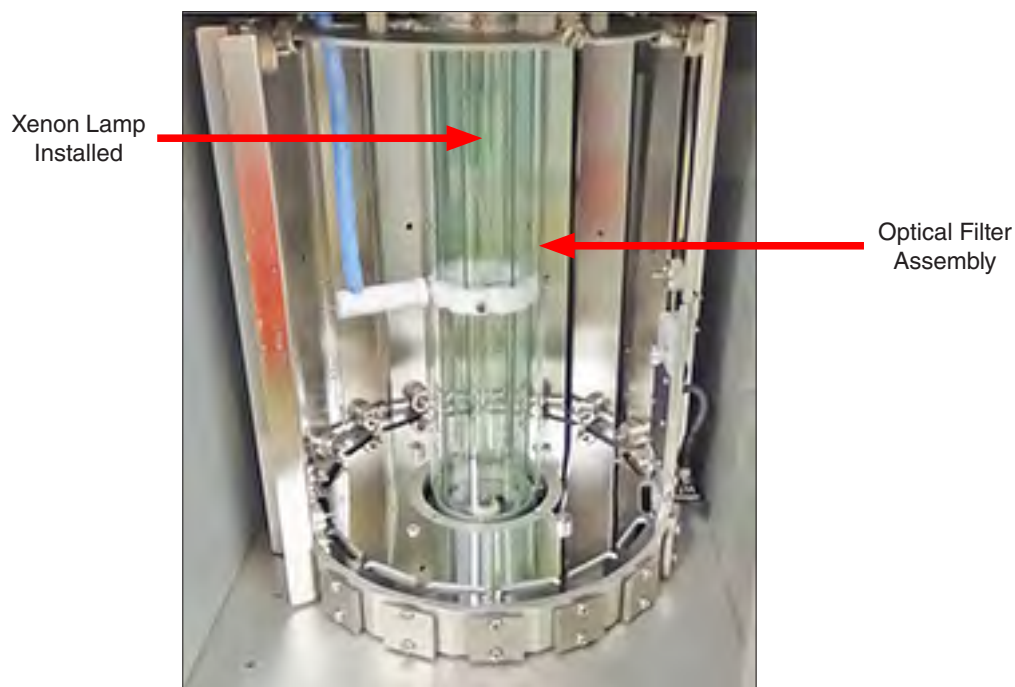

Figure 7.1b: Xenon lamp installed inside the optical filter assembly.
- The xenon lamp is installed inside the optical filter assembly, or lantern (Figure 7.1b). See Section 7.2.